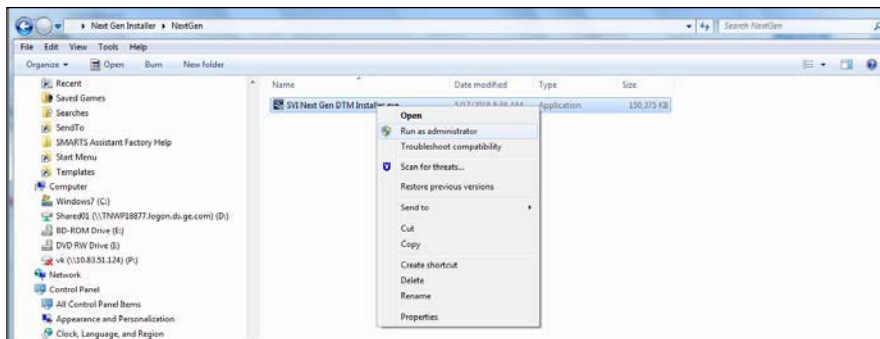

Figure 4 - Run As Administrator
- Right-click the installer, and select **Run as Administrator** (Figure 4), and follow the instructions to install.
- Right-click the installer, and select Run as Administrator (Figure 4), and follow the instructions to install.